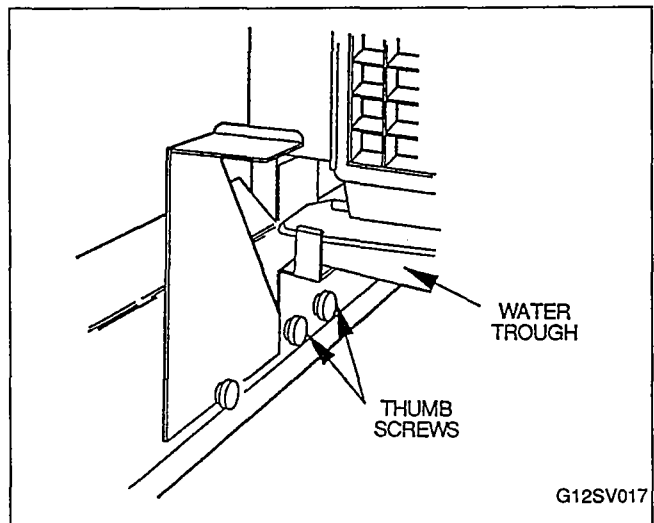

FIGURE 17. REMOVE WATER TROUGH
3. Remove thumb screws and remove water trough (Figure 17).